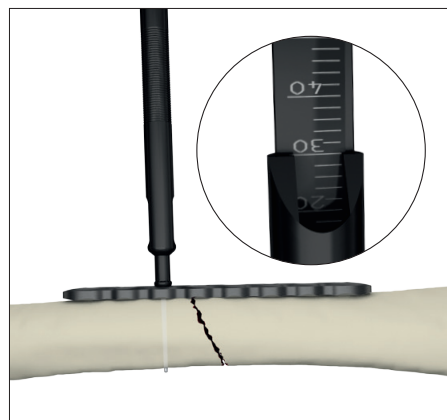
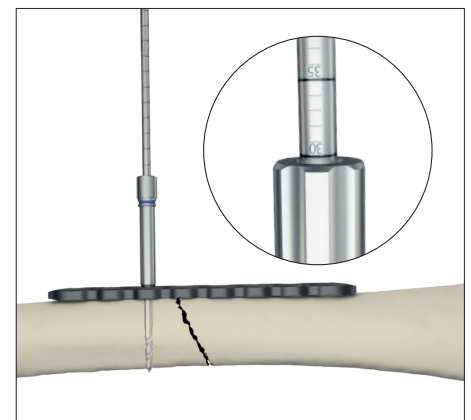

Fig. 18
Fig. 19
The correct screw length can be determined by using the depth gauge (ref 705014, fig. 18) or by reading off of the scaled drill (fig. 19).